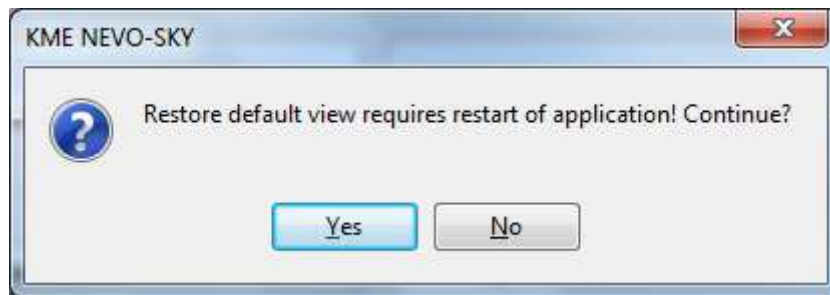

Fig. 2.22 Query to restore the default view of the application
- **"Default view"** – after confirming and restarting the application, all application settings will return to the default values (Fig. 2.22)